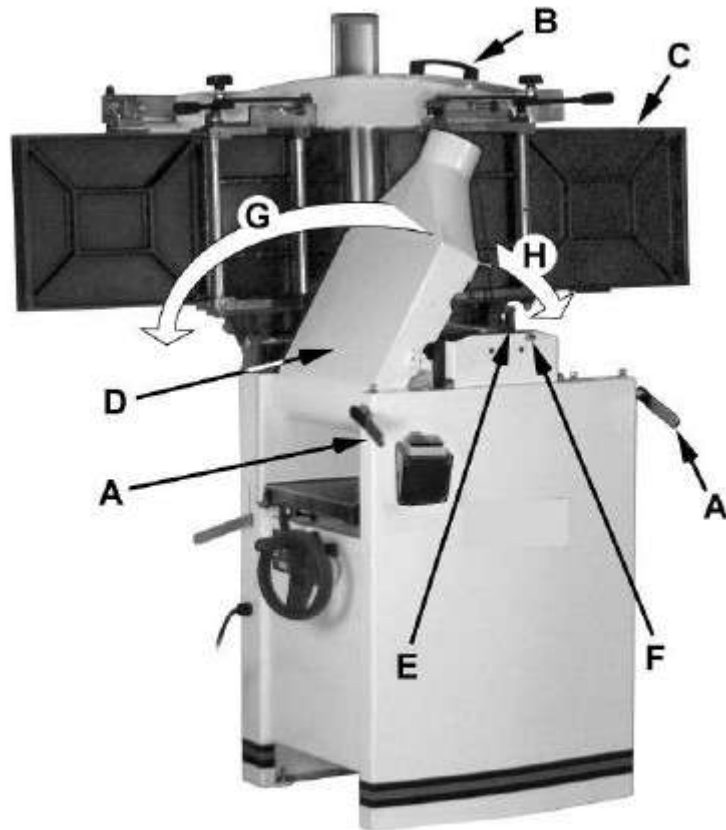

Figure 3
When raised, the table should be in the vertical position as shown in C, Fig. 3. The latch (E, Fig. 3) should be engaged, preventing the table from an accidental forward fall.
3. Position the dust chute (D,H Fig. 3) to the right. Use extreme care to avoid contact with cutterhead knives.
Referring to Figure 3: To change the machine configuration from planer to jointer: